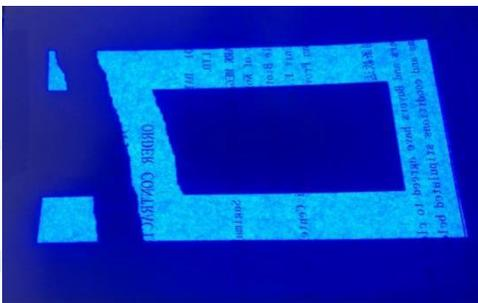

Figure 1: abnormal exposure
① "Tool"
② "Exposure"
③“Set the time to 3-5 seconds” (avoid watching the light directly for a long time)
④“Next”
- Then see whether the rectangle is abnormal (Figure 1). If so, restart it after power off. If not works well after restarting, the UV light engine should be replaced. please contact the local distributor for service.